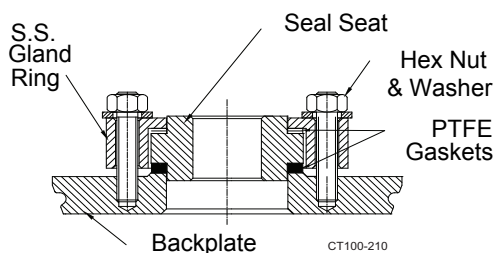

Figure 29 - Stationary Seal Seat
10. Remove four nuts and washers off the backplate to release the S.S. Gland ring, Seal Seat and PTFE Gaskets (see Figure 29). Examine them for signs of abrasion, cuts or other wear that could cause leakage and replace as required.
1. Assemble the PTFE gaskets, seal seat, the S.S. gland ring and washers on the back-plate as shown in Figure 29 and tighten them uniformly with the hex nuts.